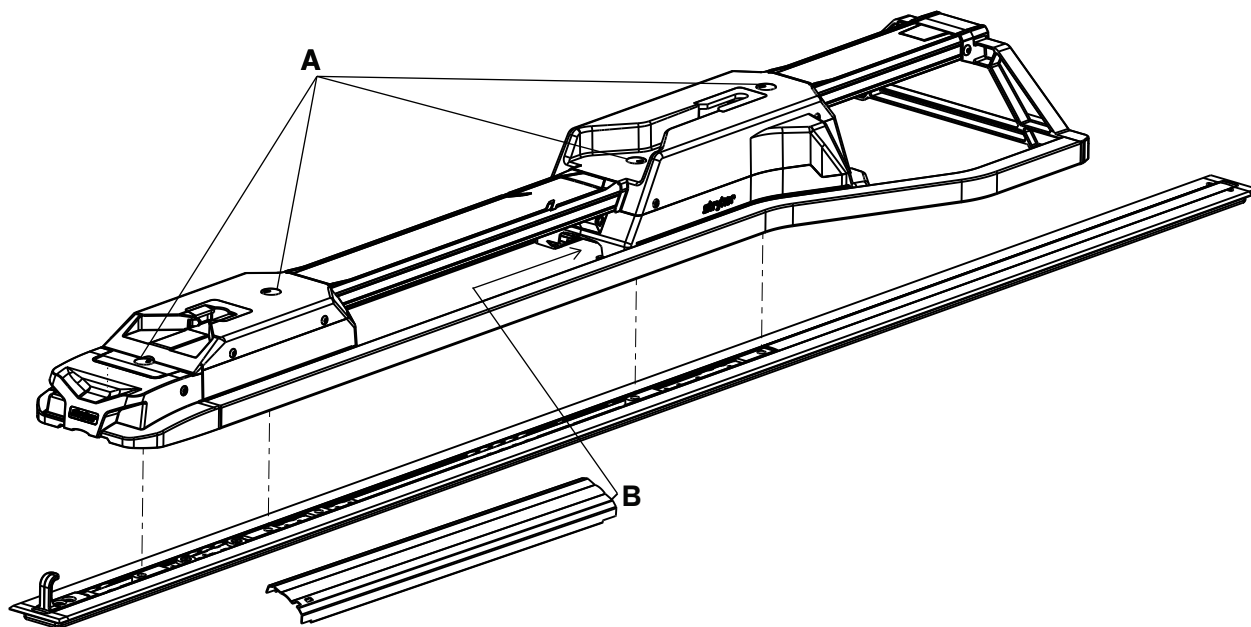

Figure 8 – Attach the fastener
12. Rotate the spin caps (A) a half turn to access the attached floor plate bolts that are under the caps (Figure 8).
14. Using a 3/8" hex wrench, install the other three attached floor plate bolts (A) into the two cleats (Figure 8).
17. Insert the un-notched side of the center cover assembly (6392-001-011) (B) into the opening in the head end housing (Figure 8).
- _____ Using a torque wrench, double check that all four attached floor plate bolts (A) are tightened 60+/-10 ft-lb. (Figure 8).